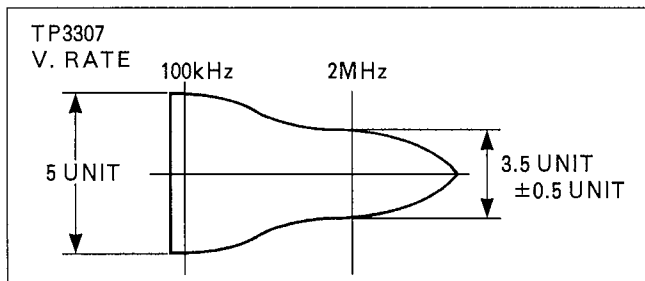

Figure E15
3. Adjust VR3007 so that the level becomes as shown in Figure E15.